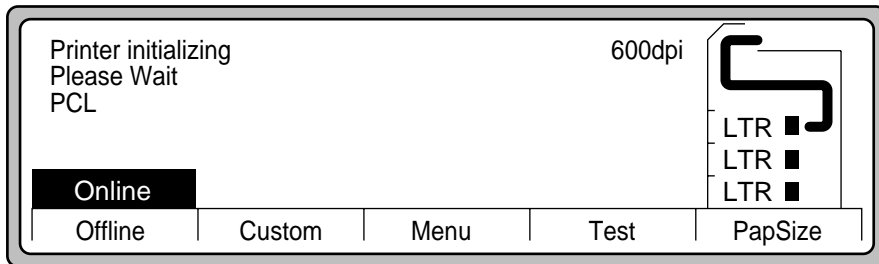

Figure 4-46 Printer Initializing
10. When the main controller has finished resetting, you will see the display shown in Figure 4-46.